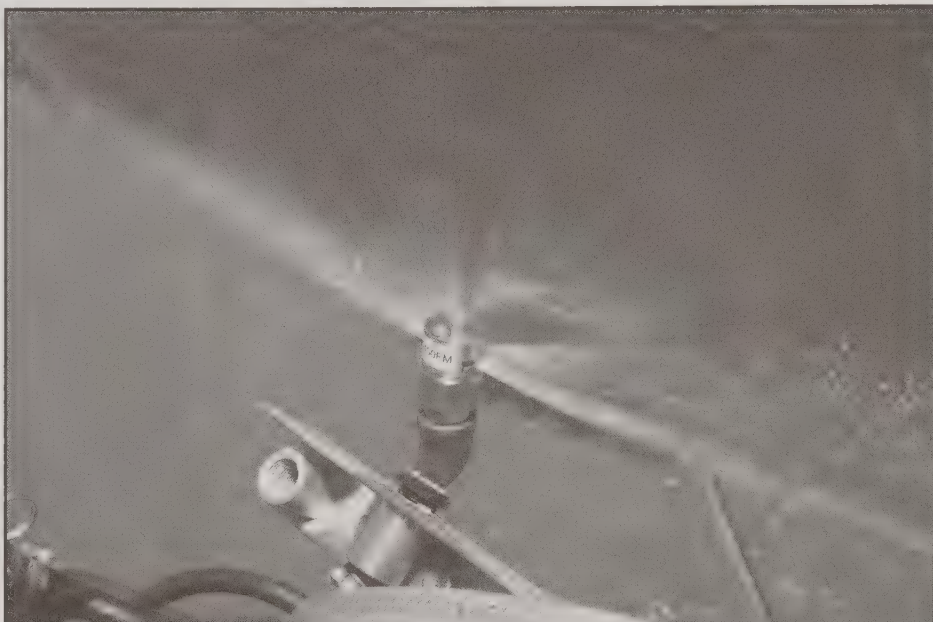

Figure 8—The Boominator 1400FM boomless nozzle created a relatively consistent droplet pattern over a 20- to 22-foot swath.
**B**oomless nozzles are becoming more popular than boom-mounted nozzles because they cover more ground with fewer passes and are less prone to damage during range and forest spraying. The spray coverage and droplet consistency of boomless nozzles are typically not as uniform as nozzles mounted on booms. Improvements in boomless nozzle technology, such as in the Boominator 1400FM, produce decent spray patterns and droplet sizes at pressures between 20 and 40 pounds per square inch (figure 8). The nozzle was mounted at a 45-degree angle to the ground to help keep the spray off the ATV and the applicator.